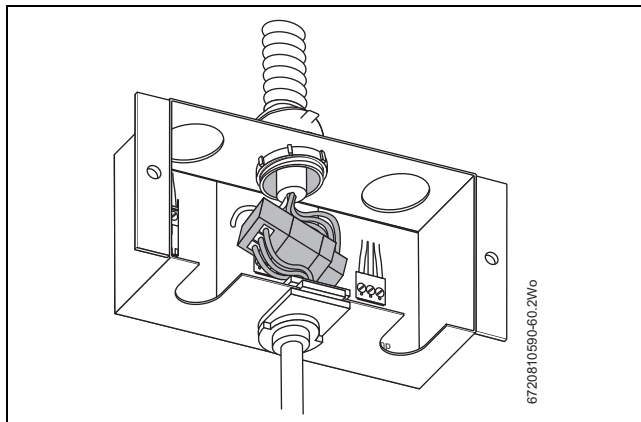

Fig. 50 Cable connected (external DHW tank loading pump or 3-way valve)
- ▶ Insert cable into the junction box as shown in Fig. 50.